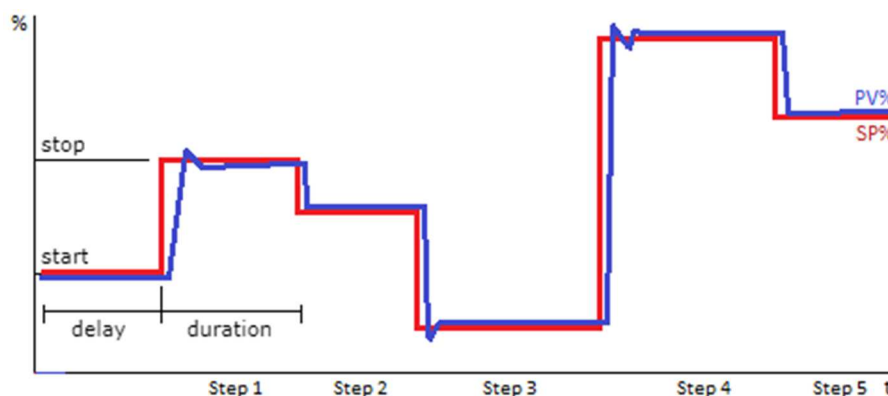

Figure 3.29 – Example of Step Response Test with five steps.
During the simulation of user-configured steps, the positioner will store the Setpoint and Position points of each step, for later plotting on the test graph, as exemplified in figure 3.29, which identifies the function of each parameter configured by the user for Step 1.
*Note in figure 3.29 that only step 1 has the Delay parameter set above zero. Setting this parameter to zero in the other steps causes the next step to be always started right after the previous step ends.*